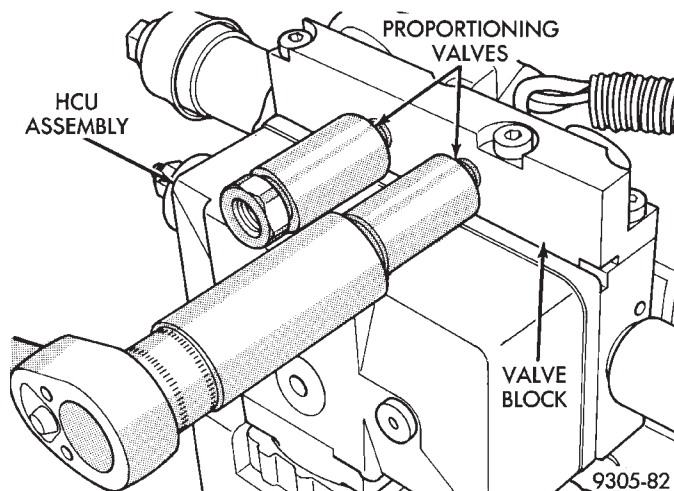

Fig. 7 Proportioning Valve Removal And Replacement
(1) Remove the (HCU) assembly from the vehicle. Refer to Hydraulic Control Unit Removal, in this section of the service manual for the required removal procedure.
(2) Remove required proportioning valve from valve block of (HCU) (Fig. 7).
(1) Install proportioning valve into valve block on (HCU) (Fig. 7). Torque proportioning valve into valve body to 12 N•m (106 in. lbs.).
(2) Install (HCU) assembly back in the vehicle. Refer to Hydraulic Control Unit Installation, in this section of the service manual for the required installation procedure.
(3) Install brake tube on proportioning valve. Tighten tube nut to 15 N•m (11 ft. lbs.) torque.
(4) Bleed the air from brake hydraulic system. Refer to Bleeding Teves Mark IV Anti-Lock Brake System in this section of the manual for proper bleeding procedure. **When bleeding brake system visually inspect all line fittings previously disconnected for any signs of leakage.**